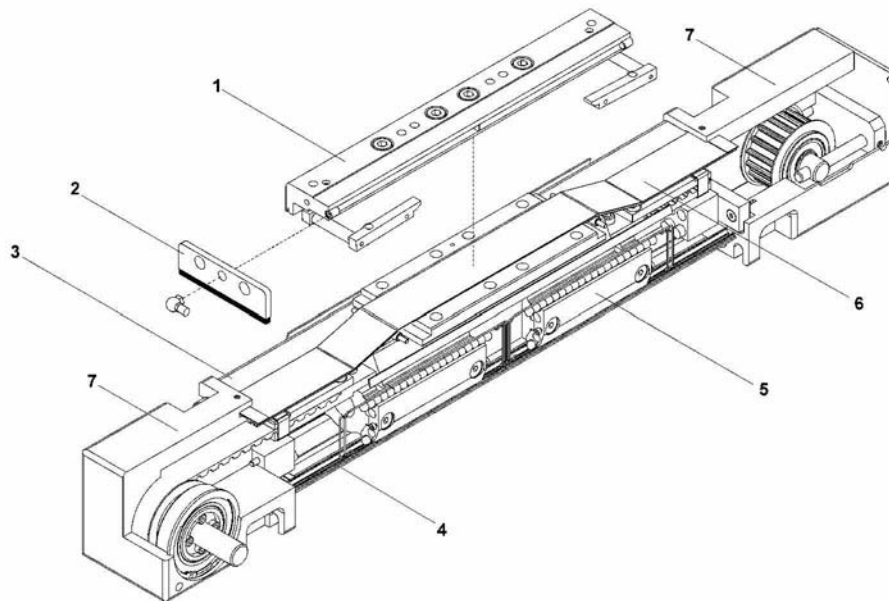

Fig. 2
WIESEL linear drive units consist of the following functional assemblies (Fig and Fig. 2):
Fig. 2: On the WM80 *POWERLine ZRT*® four, on the sizes WM60-370 and WM80-370 two covered ball return carriages transmit the moment from the sliding carriage (1) to the tubular section (4). Lubrication is by means of a central grease nipple and lubrication channels (see Chapter 8.1, "Lubrication")